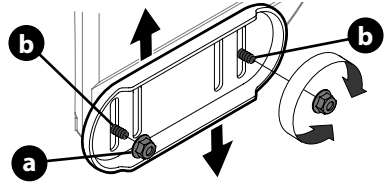

Figure 41
- Loosen four hex nuts (a) (two on each side) and carriage bolts (b). Move skid shoes to desired position (Figure 41).
NOTE: The skid shoes on your snow blower may look slightly different (and have different hardware) than ones shown in Figure 41.